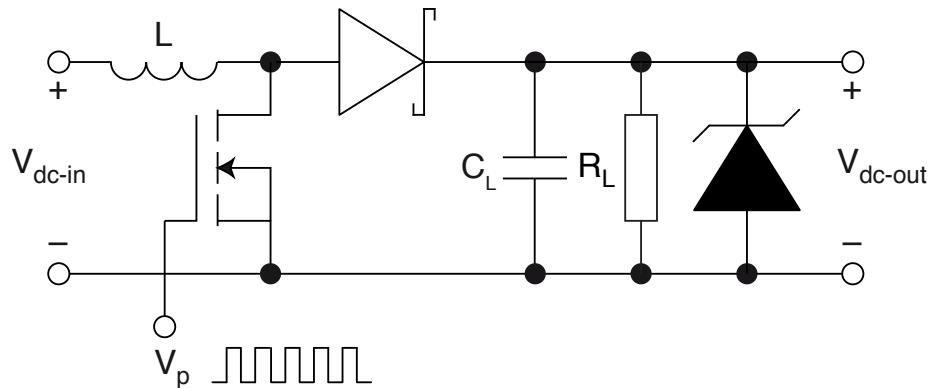
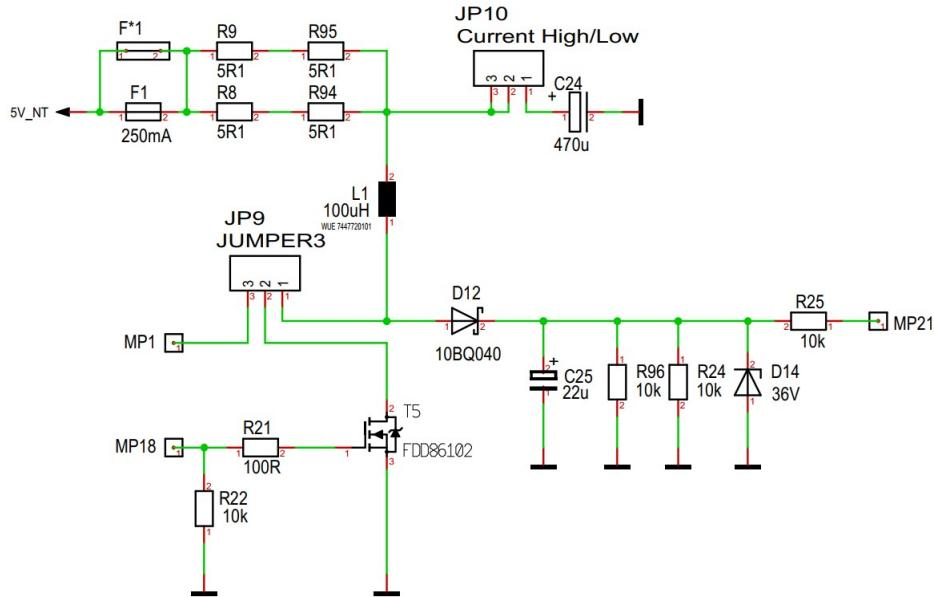

Figure 3.4.1: A basic step-up converter
Figure 3.4.2: Schematic of the *step-up converter* circuit
A simple step-up voltage converter circuit is shown in Figure 3.4.1. The MOSFET is essentially a switch which alternately generates a short or an open circuit. When the MOSFET is on (a short circuit), a current from the input flows through the coil and the transistor, establishing a magnetic field in the inductor. When the MOSFET switches off (an open circuit), the stored energy in the coil results in a current flow through the Schottky diode, charging the capacitor. When the MOSFET switches on again, the cycle repeats. The increasing charge on the capacitor generates the higher output voltage V_{dc-out} .
- Set up a SPICE simulation of the step-up converter circuit of Figure 3.4.1, which corresponds to the circuit on the electronics board (Figure 3.4.2). Use the FDD86102 power MOSFET (download the model file). Take $L = 100 \mu\text{H}$, $C_L = 22 \mu\text{F}$ and $R_L = 5 \text{k}\Omega$ in parallel to the capacitor. For the Schottky diode, use a 10BQ040 (download the model file) and for the Zener diode a BZX84B36VL (with $V_Z = 36 \text{ V}$, in the LTSpice library).
In the “MOSFET” section of the electronics board, we will use the *step-up converter* circuit, shown in Figure 3.4.2.